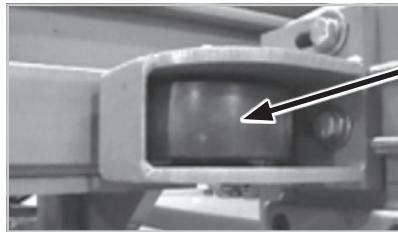

Figure 89
- Inspect guide wheels for even wear indicating they are positioned properly (Figure 89).